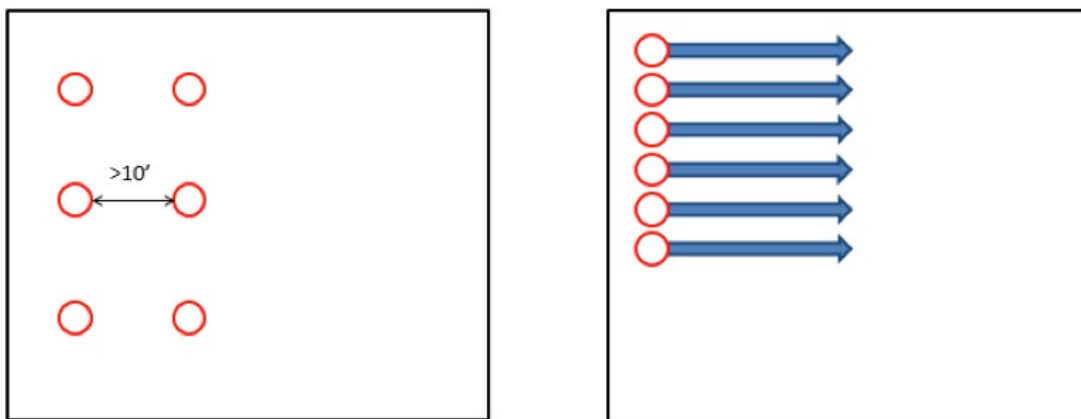

Figure 3. Examples of possible mechanical room plans for Scenario 4 or 5.
- HPWH air intake registers must be at least 10 feet from other HPWH exhaust outlets. This could be accomplished by spacing out the HPWHs or ducting (see Figure 3),
- HPWHs air intake registers must be at least 10 feet from other HPWH exhaust outlets. This could be accomplished by spacing out the HPWHs or ducting (see Figure 3) ,